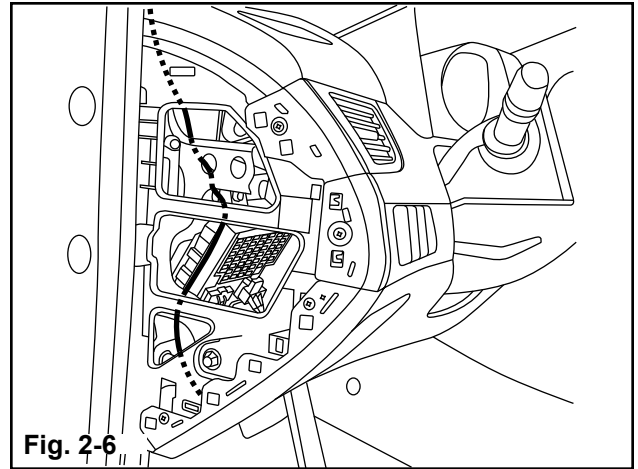

Fig. 2-6
- a) Route EC mirror harness through dash from A-pillar down to fuse panel area. (Fig. 2-6)